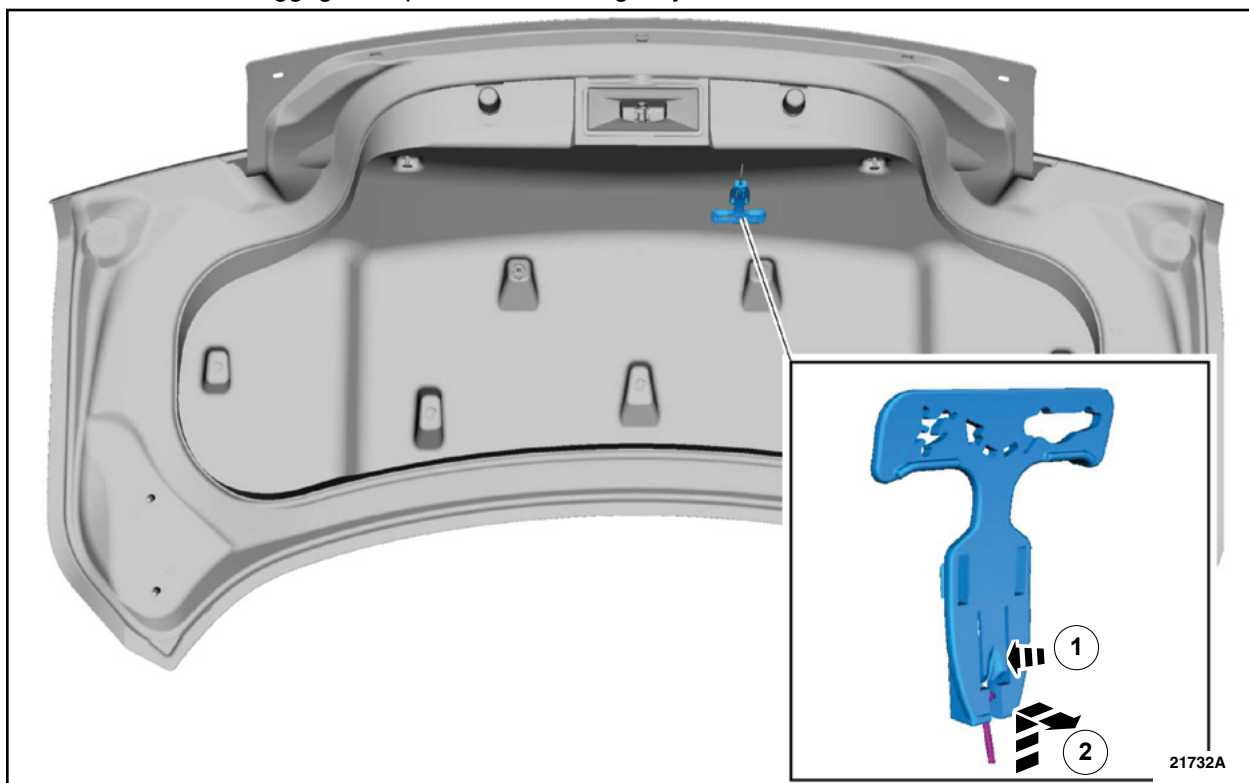

FIGURE 2
7. Remove the luggage compartment lid emergency release handle. See Figure 2.